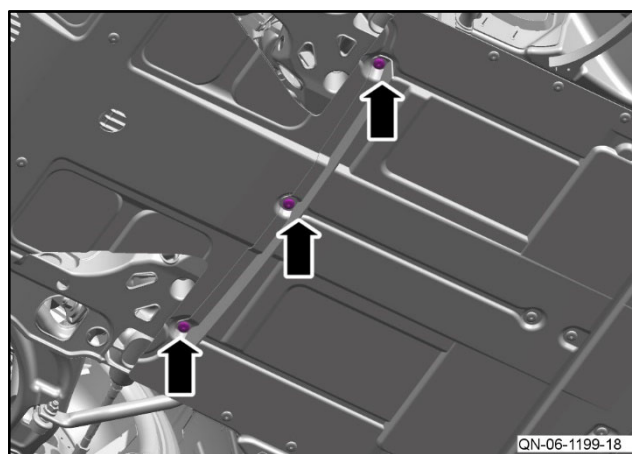

Figure 25
- 25** Install and torque the three screws that attach the air dam to the front undertray to 9 Nm (refer to Figure 25).